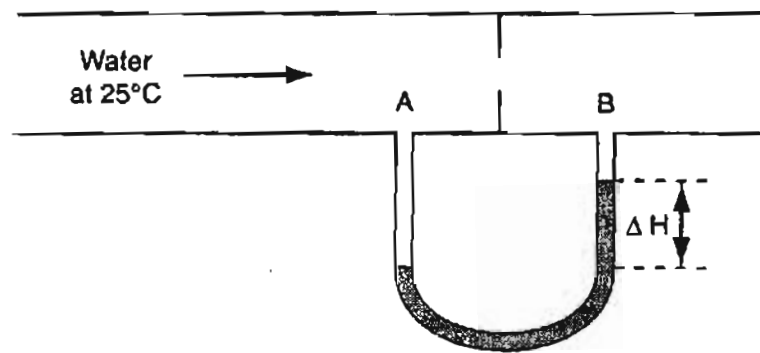

Figure P5.33
- *5.33** Examine Figure P5.33. Water flows through an orifice.